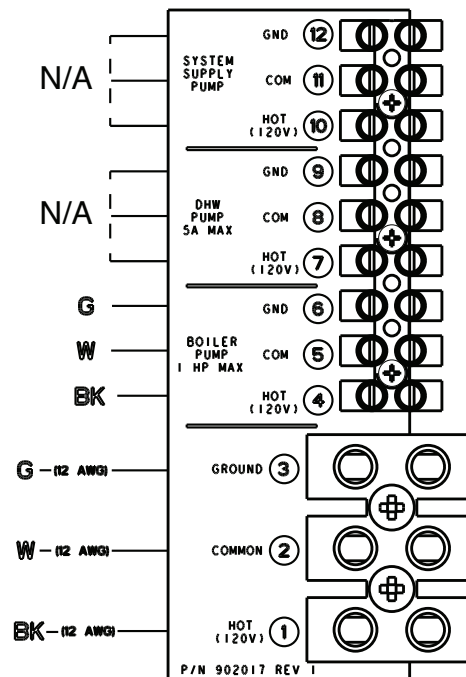

Fig. 20: VERSA Follower
1. Once the primary boiler has been identified, additional boilers will be designated as follower boilers. Ensure dip switch 2 on each follower VERSA is set to the OFF/Down position (See Fig. 20)